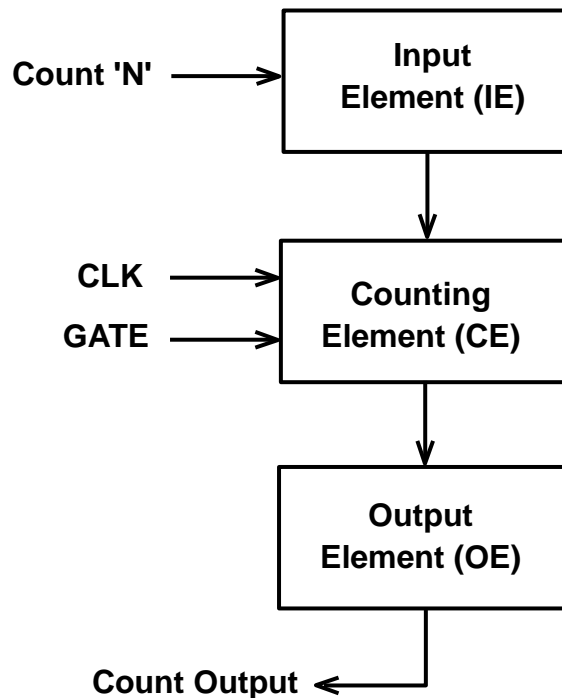

Fig.10.3 Internal Structure of Timer
The timers are 16-bit down counters. These timers are loaded with an initial value before triggering. Every high to low transition at CLK input decrements the count by one. The operation of timers can be best understood by considering the internal structure of timer. Each timer is having three elements- input element (IE), counting element (CE) and output element (OE). These three elements are connected as shown in fig.10.3.